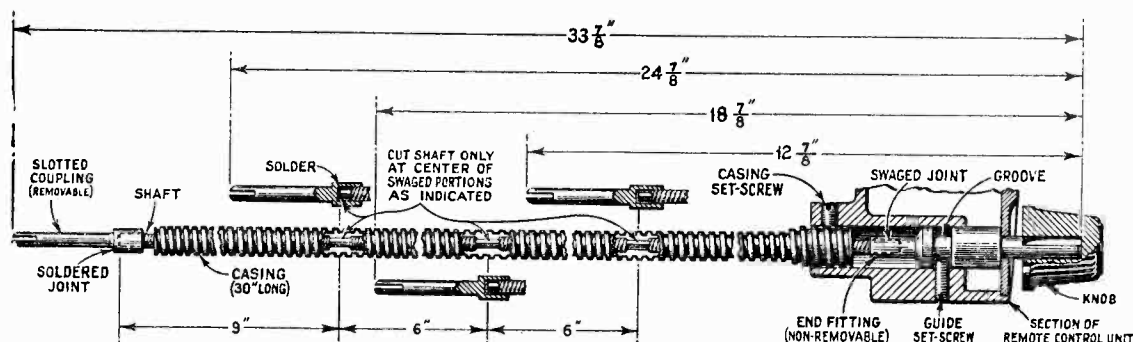

Figure 3
**Flexible Shaft**—Insert that end of the flexible shaft to which is attached the slotted coupling through the bushed opening in the left side of the receiver unit. Then rotate the shaft from the free end until the coupling slot is felt to engage over the pin contained in the tuning mechanism and slide the shaft forward to the full depth of the slot. With the shaft held in this position, insert the opposite end of the shaft through the bushing at the rear of the remote control unit and push forward until the flatted portion of the shaft protrudes through the front cover. Then proceed to tighten the external set-screw (located at the bottom of the case—see Figure 3) adjusting the shaft position as necessary until the screw is felt to engage in the groove. Tighten the screw fully to the bottom of the slot and then loosen it approximately one-quarter of a turn. Finally, secure the flexible casing in place by tightening the set-screws at each end *firmly*, so as to pro-
**NOTE**—In many installations it will be found necessary or desirable to use a flexible shaft of shorter length than 33 7/8 inches. While it is simplest to procure a shaft of proper length from the dealer as mentioned heretofore, very little difficulty should be experienced in shortening the original part if deemed expedient. To shorten the shaft, refer to Figure 3 and proceed as follows: